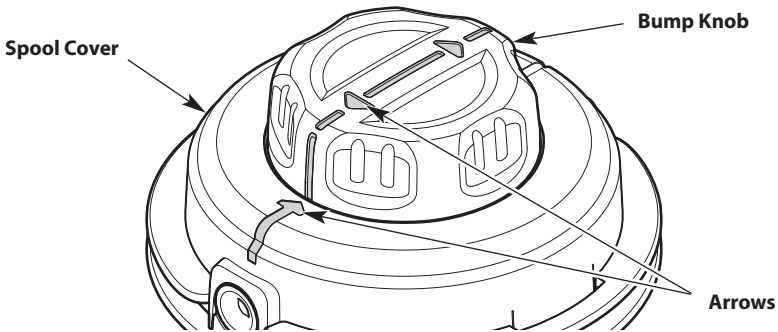

Fig. 22
3. Turn the bump knob to align the arrows on the bump knob with the arrows on the spool cover (Fig. 22).